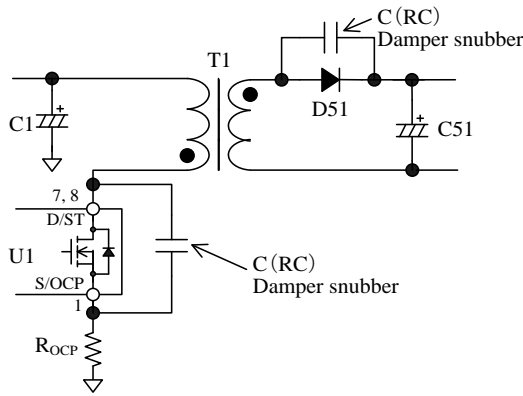

Figure 9-18 Damper Snubber
In addition, if a C (RC) damper snubber of Figure 9-18 is used, reduce the capacitor value of damper snubber.